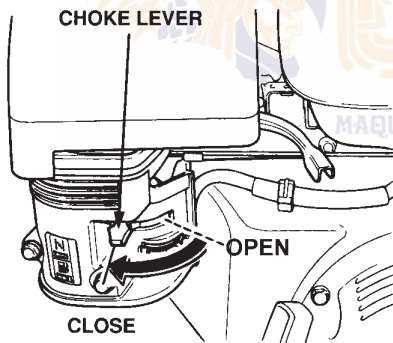

Figure 17. Choke Lever
2. To start a cold engine, move the choke lever (Figure 17) to the **CLOSED** position.